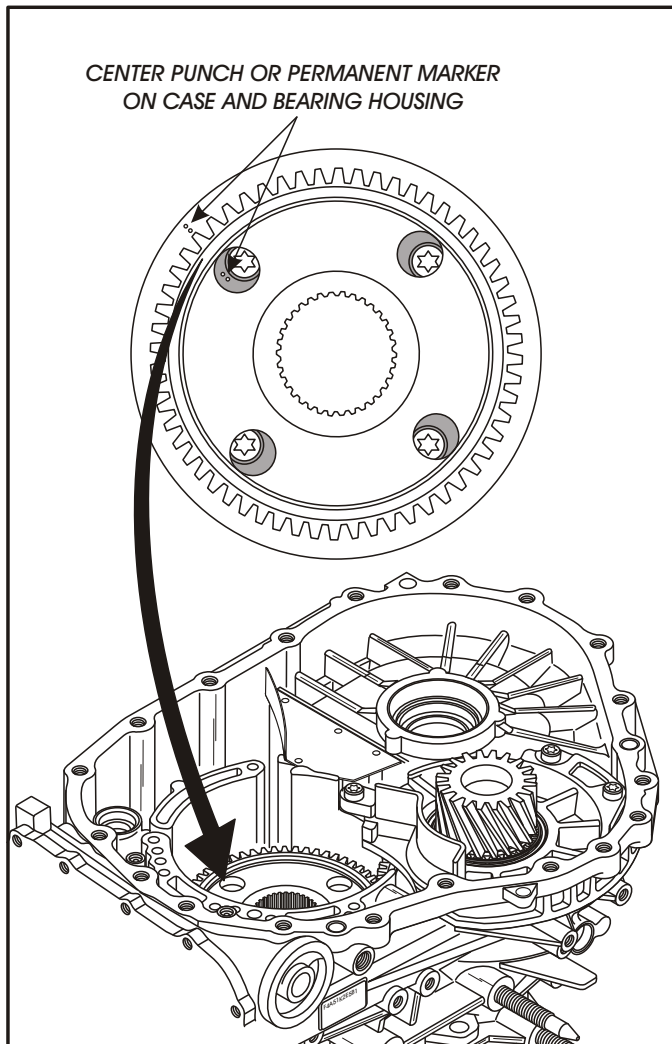

Figure 61
81. Remove the transfer drive gear by accessing the retaining bolts through the access holes provided, as shown in Figure 61.
Note: Reference marks must be placed on case and bearing housing (See Figure 61). Housing bolts in case in 1 direction only.